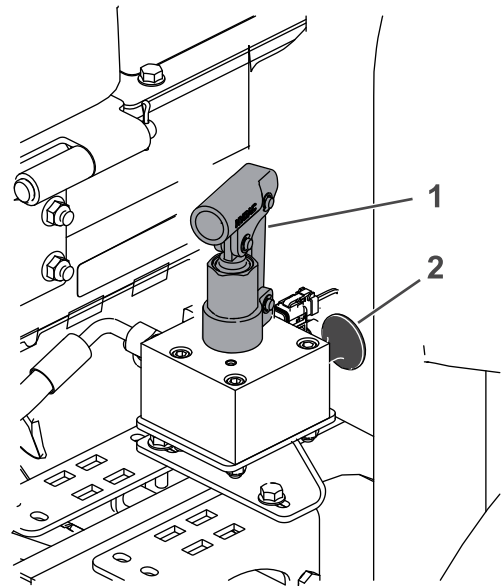

Figure 68
4. Locate the brake release manifold near the front right tire and behind the hydraulic tank (Figure 68).